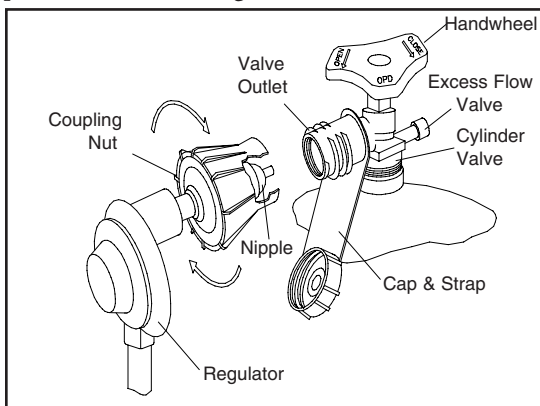

Figure 2. Coupling Assembly
When you connect your cylinder to the grill, you will feel the coupling nipple seal when there is slight resistance. (See Figure 2.) Turn about one-half to three-quarters further to complete the connection. Tighten only by hand; do not use tools. If you cannot complete the final connection, disconnect the regulator and repeat step 7, below. If you are still unable to complete the connection, replace the valve and regulator!
3. For LP gas, open the Gas Valve on the Cylinder using the Handwheel.(See Figure 2, Page 7.) For Natural gas, open the gas valve in the main line.
3. For LP gas, open the Gas Valve on the Cylinder using the Handwheel. (See Figure 2, Page 7.)